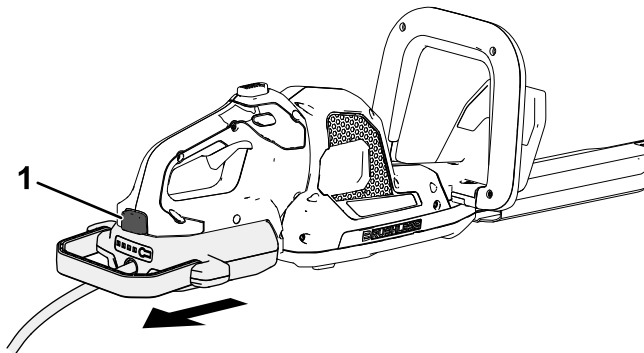

Figure 6
1. Press the latch button on the tool and remove the battery connector from the tool (Figure 6).